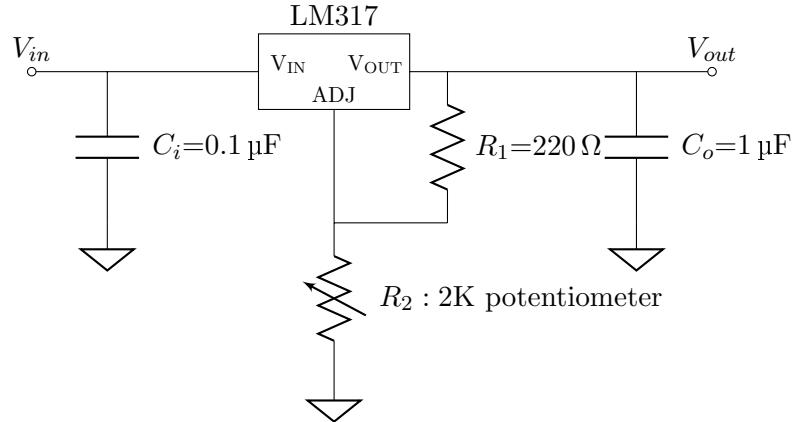
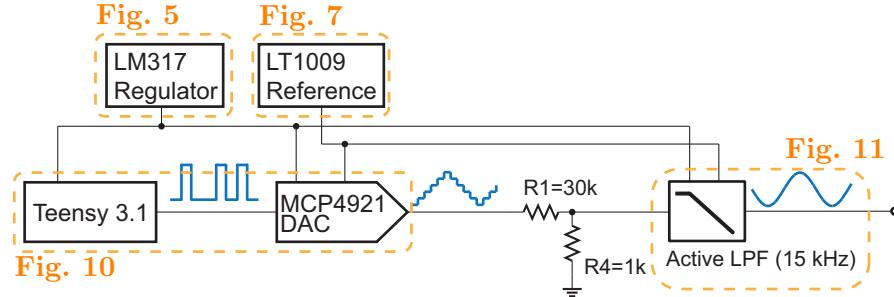

Figure 5: Schematic of the voltage regulator circuit using LM317.
Figure 14: Block diagram of the PCB design.
1. Using Fig. 5 as a reference, build the regulator circuit on the breadboard. You should be able to find the LM317 pinout diagram from its datasheet, which you find from online. *As a general suggestion, it is important to keep your circuit well laid out and keep the connecting wires as short as*
Design a PCB incorporating the circuits of Fig. 5, 7, 10, and 11. We will add a resistive attenuator circuit just so that the output does not easily saturate. Fig. 14 shows a high level block diagram of the PCB.